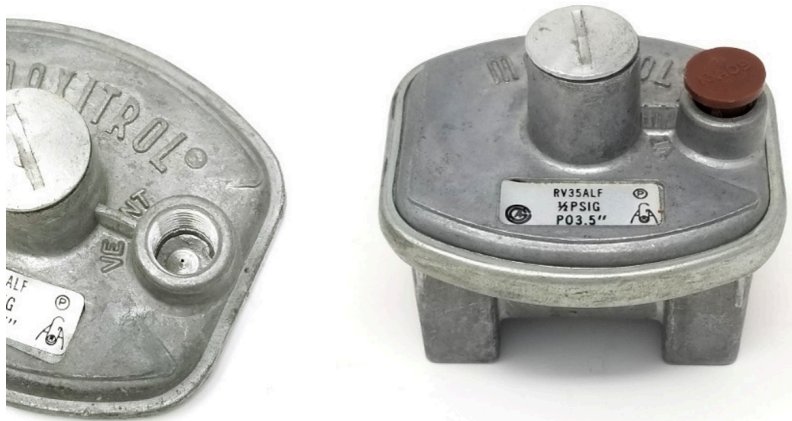

Figure 15. Bleed vent openings
Small appliance regulators and servo regulator on combination gas valves will have a bleed vent opening with an internal orifice, usually about a #78 drill size (Figure 15 left). This opening is large enough to enable the regulator diaphragm to breath adequately but small enough to limit the amount of gas that would escape in the event of a diaphragm rupture. The threaded connection under the cap can be used to pipe the vent to away if the regulator is installed in a non-ventilated space. The vent opening is usually covered by a loose-fitting cap to prevent dirt from entering the opening (Figure 15 right).
- Figure 15. “Bleed vent openings” by Camosun College is licensed under a CC BY-NC-SA licence (<https://creativecommons.org/licenses/by-nc-sa/4.0/deed.en>).